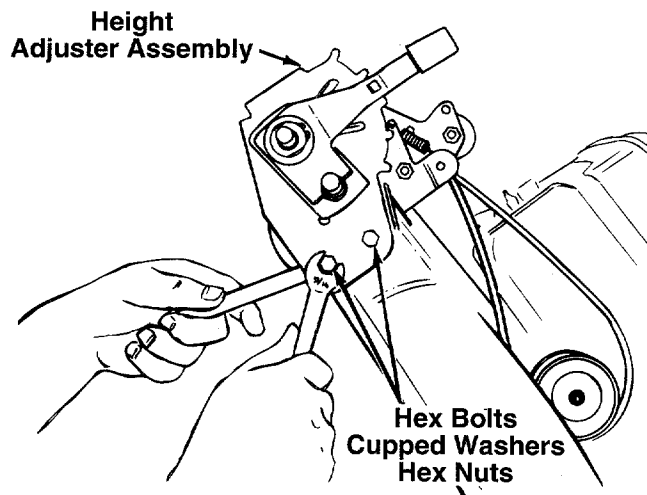

FIGURE 19.
9. Using two 9/16" wrenches, remove the two hex bolts, cupped washers and hex nuts which secure the height adjuster assembly to the deck. See figure 19. Remove height adjuster assembly from unit.